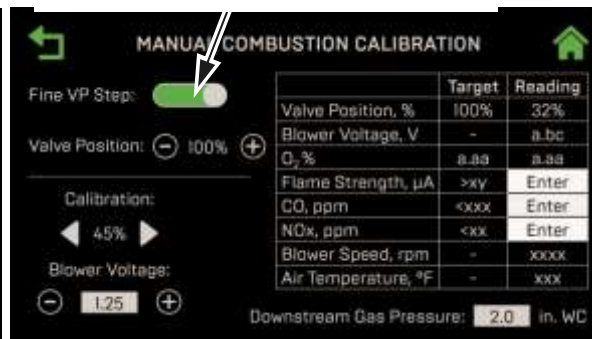

Figure 4-9: Manual Combustion Calibration Screens
17. Compare the combustion analyzer’s oxygen (O₂) reading to the O₂ value in the **Reading** column (Figure 4-9). If they differ, go to the **Main Menu → Calibration → Input/Output → O₂ Sensor** screen and adjust the **O₂ Offset** parameter, up to **±3%**, to make the on-board O₂ sensor match the value from the combustion analyzer. If your combustion analyzer is correctly calibrated, and the on-board O₂ sensor cannot be made to match the analyzer, the sensor may be defective and need to be replaced.
21. Compare the measured nitrogen oxide (NO_x) and carbon monoxide (CO) readings to the **Target** values in Table 4-5 (shown as a reference only). If you are not in a “NO_x-limited” area and/or do not have a NO_x measurement in your analyzer, set the O₂ to the value in the **Oxygen (O₂) %** column in the table below.